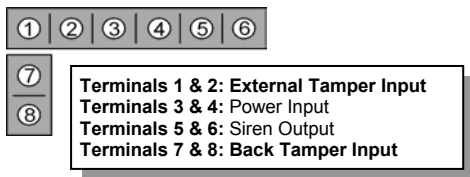

Figure 2: Wiring Connections
4. Connect a 12VDC or 9VAC, 500mA transformer to terminals 3 and 4 on the siren's terminal block (polarity is not important) – see Figure 2.